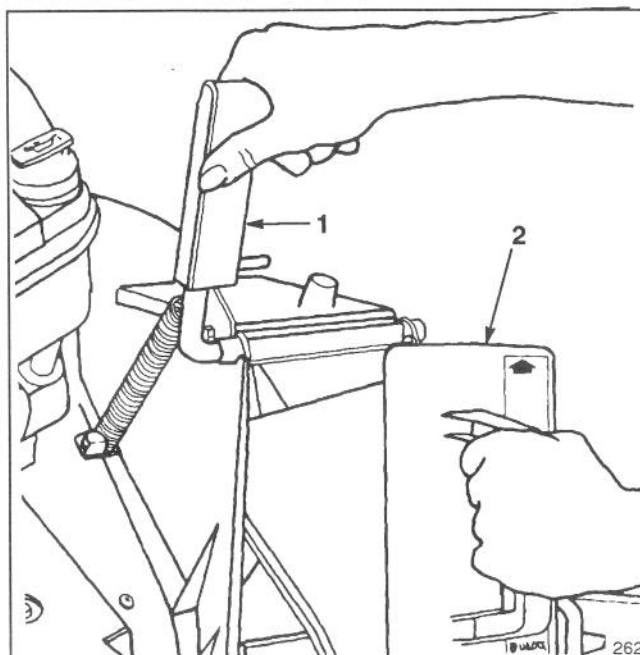

Figure 10
1. Make sure engine is off. Open the discharge door by pulling forward on the handle and moving it rearwards (Fig. 10). Hold the discharge door handle to prevent the spring-loaded door from closing while inserting the plug.
2. Since the plug is slightly wider than the discharge tunnel opening, you must rotate the plug clockwise slightly while inserting it (Fig. 10). Make sure the arrow on the plug decal is pointing upwards.